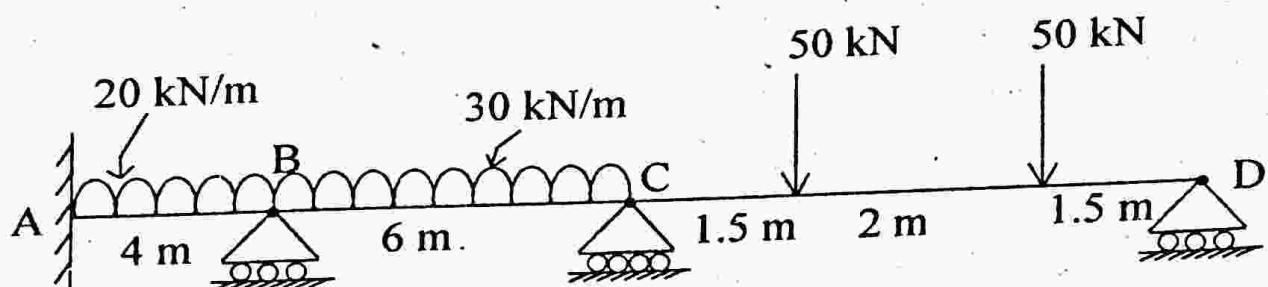

Fig. 8
8. Analyse the given continuous beam by Stiffness Method and draw BMD. Take $EI = 1$ units (Refer Fig. 8) 13